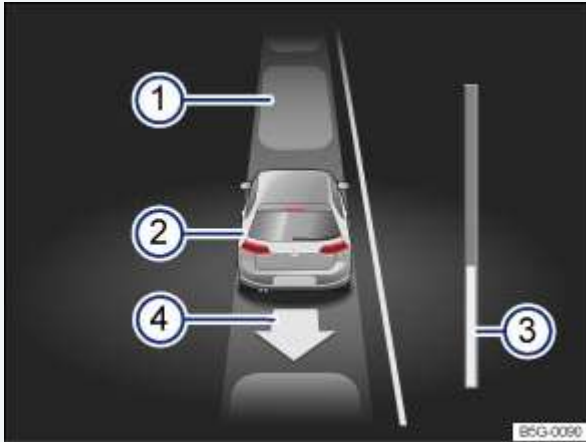

Fig. 181 In the instrument cluster display: Driving out of a parallel parking space.
Key to ⇒ Fig. 181 :
|    | The progress bar <a href="#">⇒ Fig. 181③</a> displays the distance left to be traveled <a href="#">⇒ Progress bar</a> .                                                    |